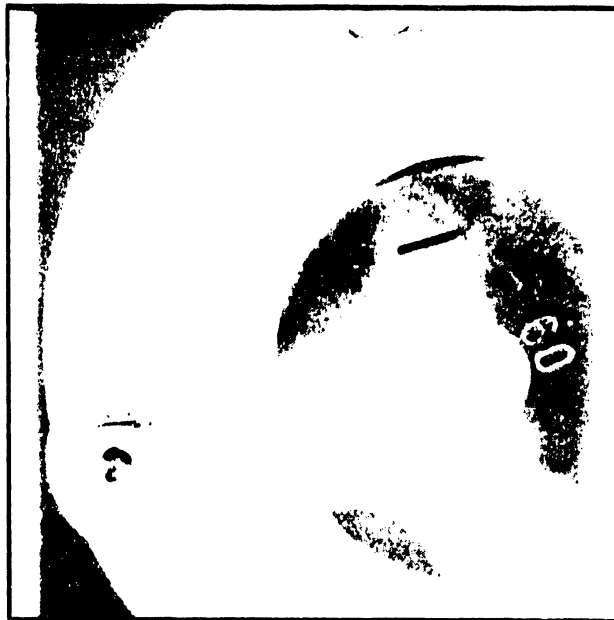

Figure 5-27. Quantum Drive Spindle Lock
6. Lock the actuator and the drive pulley. (Figures 5-27 and 5-28.)
1. Tilt the new Quantum drive and loosen the 11/32 inch hex nut securing the locking clip on the Quantum drive pulley. (See figure 5-27.)